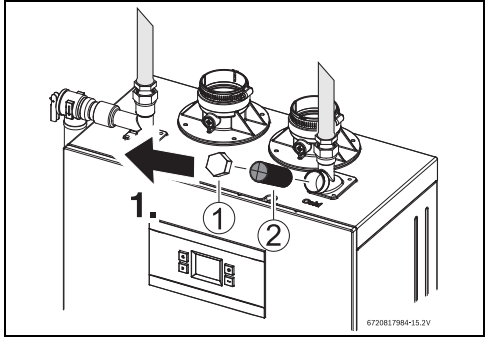

Fig. 29 Water filter
- ▶ Tighten all water connections with the support of a wrench, see fig. 29.